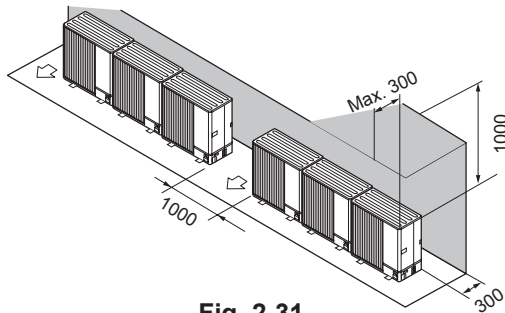

Fig. 2-31
- ② Obstacles at rear and above only (Fig. 2-31)